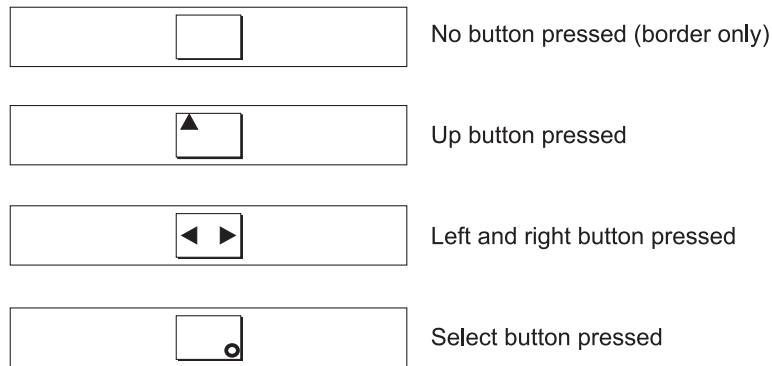

Figure 37. Front-panel display when push buttons are pressed
3. Press the up, down, left, and right buttons to verify that they are working. Figure 37 shows four examples of what the front panel might display when you press the buttons. After you finish testing the buttons, press and hold the select button for five seconds to exit the test.